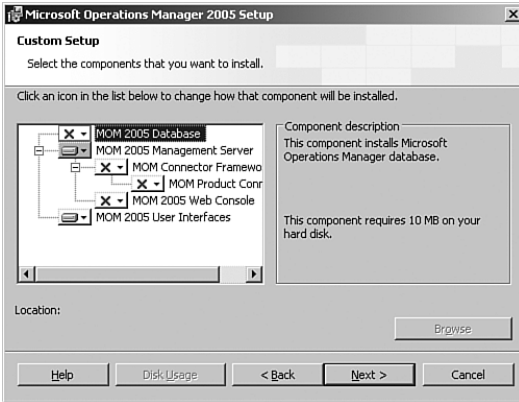

FIGURE 10.4 The Custom Setup components screen to install an additional management server.
- At the Custom Setup screen, specify the components to install. Make sure that you uncheck the MOM 2005 Database component! You can install the MOM Administrator and MOM Operator consoles by leaving the MOM 2005 User Interfaces selected. Figure 10.4 shows the correctly selected components for installation.